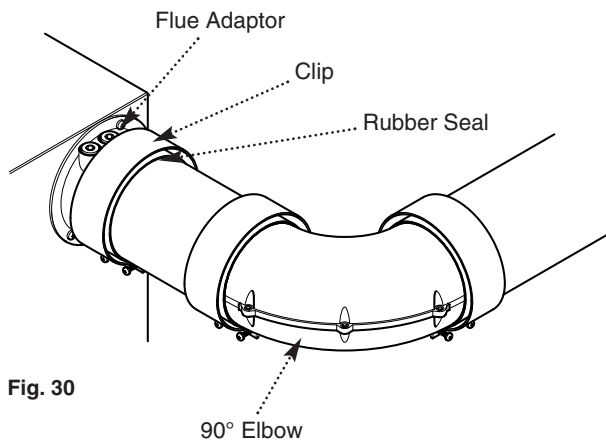

Fig. 30
7. Set the elbow to the required orientation. Align the clip over the seal and tighten the screws (Fig. 30).